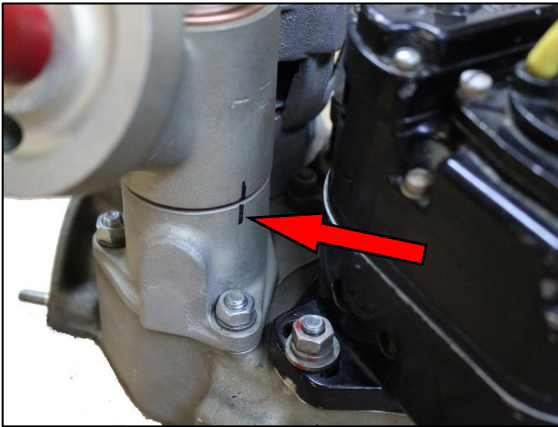

Figure 4
5. Make a match-mark on the sleeve and oil screen housing, see Figure 4. Remove the filter, taking care not to move the adapter sleeve. Check the match-mark. If the marks are not aligned, move the sleeve so that the marks are aligned. If necessary, tighten the spool slightly, just enough to hold the sleeve in place with marks aligned.